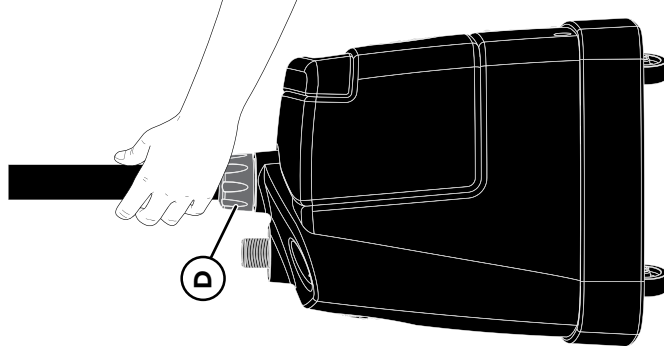

Figure 3
- 3.** Insert Pole C into unit through Coupling (D). Screw Coupling (D) clockwise until Pole C is secured (Figure 3).